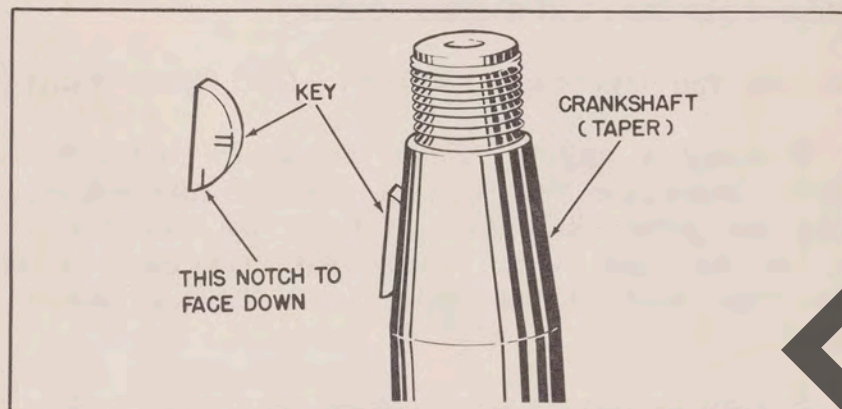

Figure 3-6. Key Position
c. Place flywheel over tapered end of crankshaft and at the same time align key and keyway in flywheel hub. See figure 3-6 for correct key position.